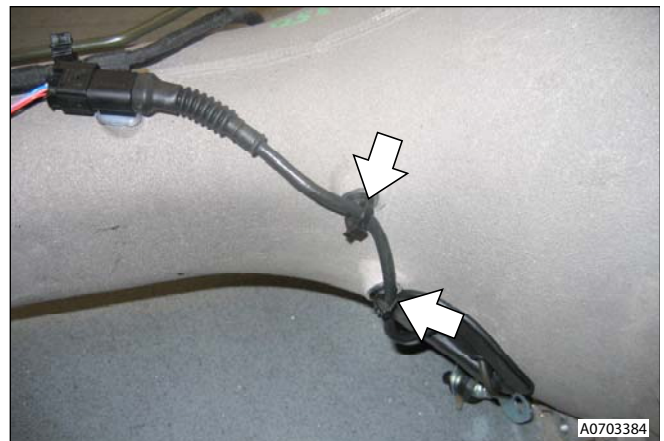

Figure 2
7. Release clips (x2) securing clutch position sensor harness to side of torque tube (see Figure 2).